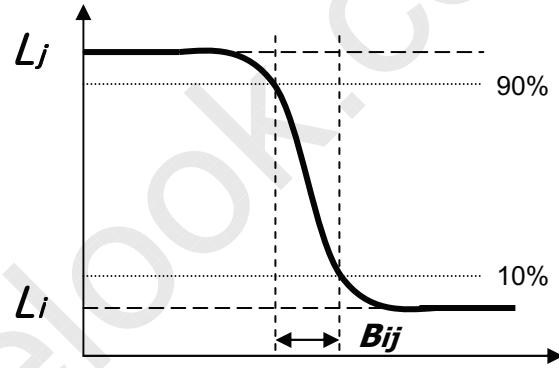

FIG. 4 MPRT
5. MPRT is defined as the 10% to 90% blur-edge width Bij (pixels) and scroll speed U (pixels/frame)at the moving picture. For more information, see FIG 4.